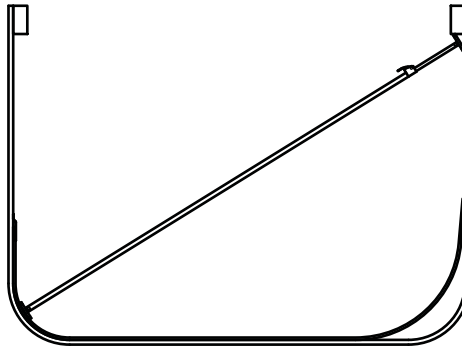

Figure 11
- 1) See **Figure 11**. Compress the liner (one side at a time) to the floor using load jacks or Port-A-Power(s). The length of the body/trailer.